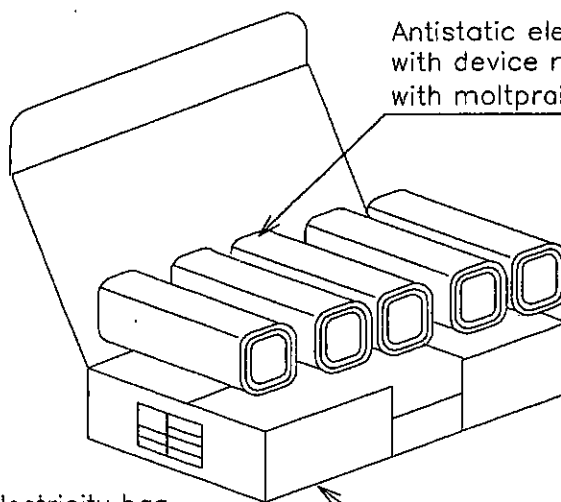
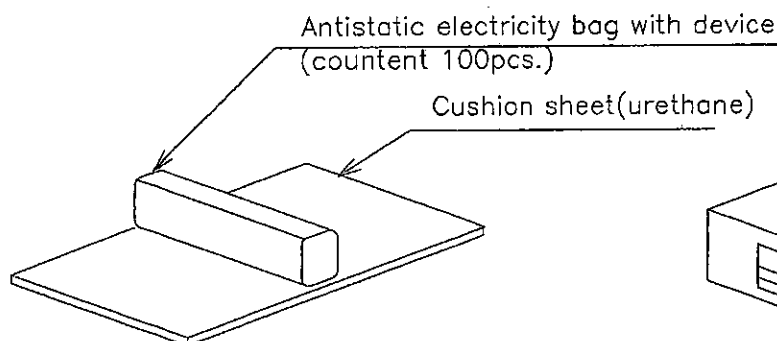

Fig.3
Fig.2
2. A pack (item1) should be wrapped by cushion sheet (urethane). And five packs should contain in one box. (Fig. 2 , Fig. 3)